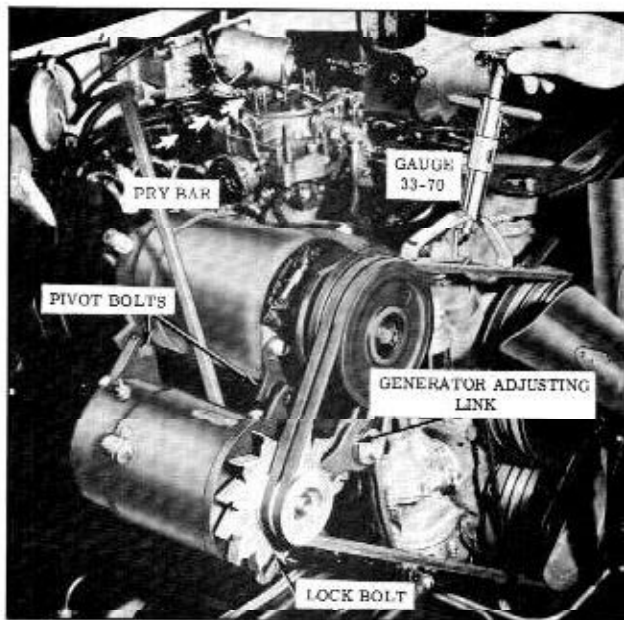
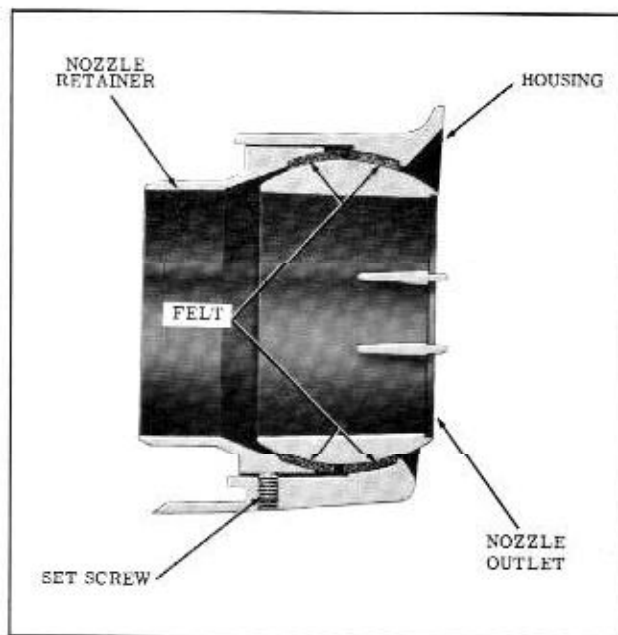
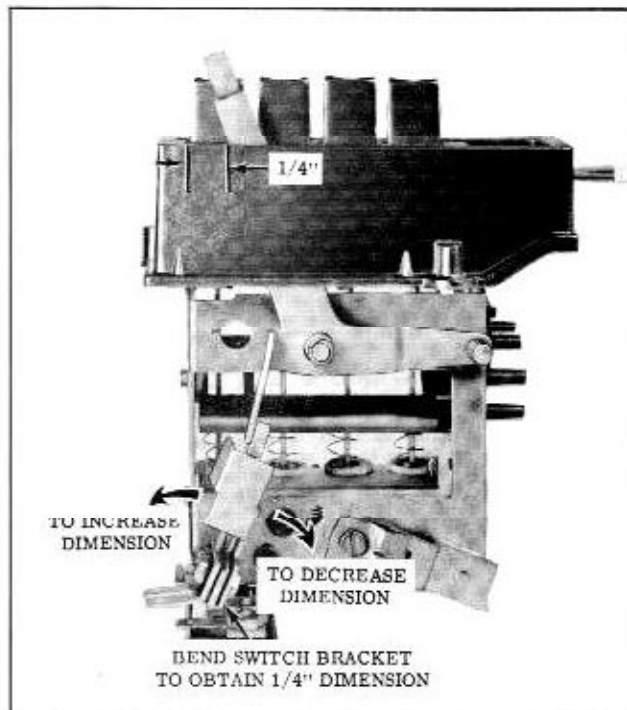

Fig. 14-10 Compressor Belt Adjustment
Fig. 14-11 Air Outlet Adjustment
Fig. 14-13 Clutch Solenoid Switch Adjustment
Tool 33-70 is used to check the compressor belt tension. (Fig. 14-10)
Adjustment (Fig. 14-13)
4. To install, reverse removal procedure. Refer to Fig. 14-10, Fig. 14-11 and Fig. 14-13 for proper installation of hoses.
Recirculating Air Valve (Fig. 14-10)